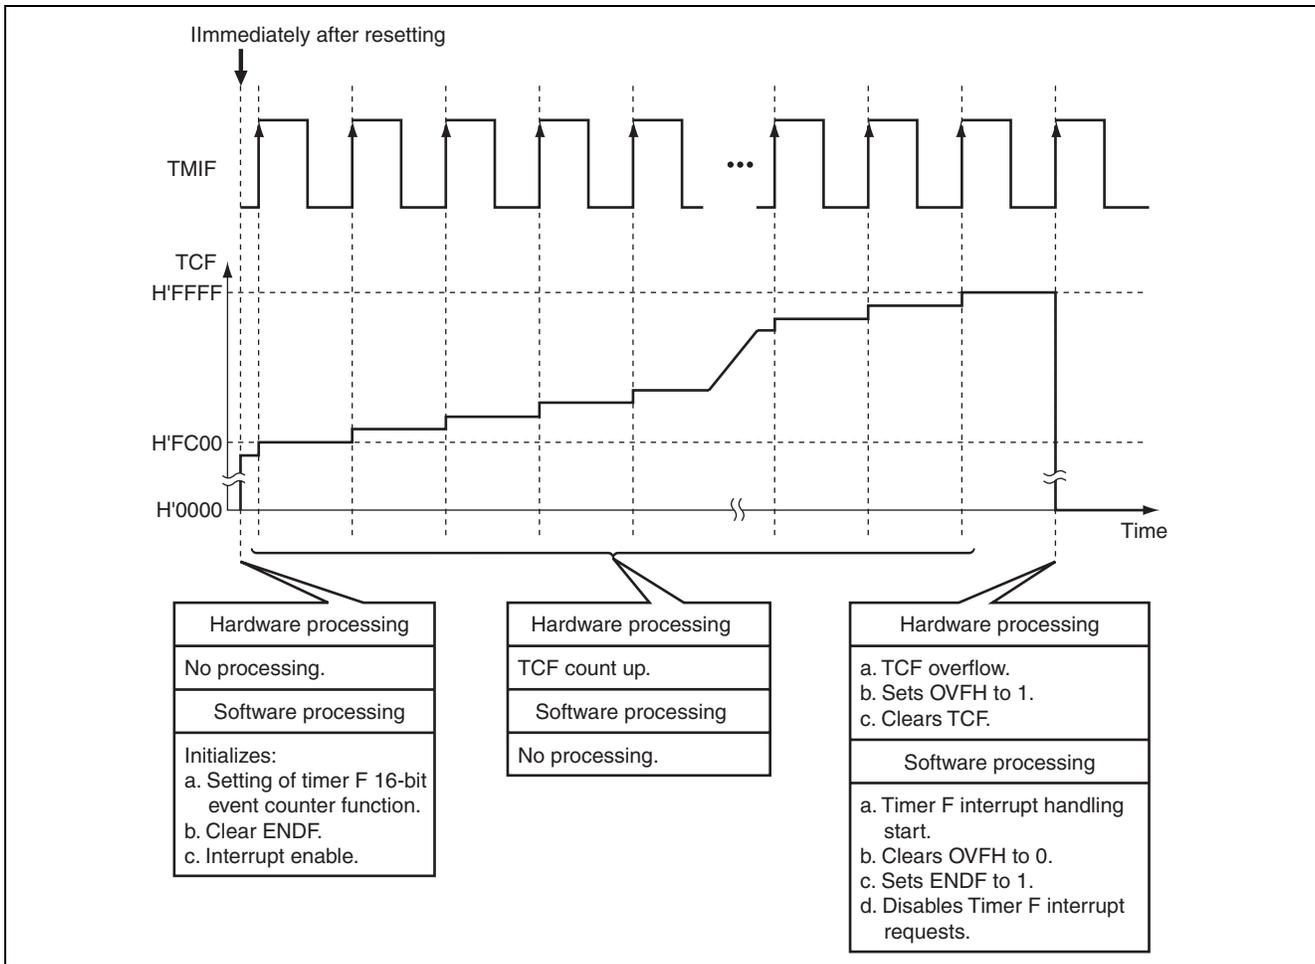

Figure 3.1 Operation Principle of Counting Input Pulses by Timer F 16-Bit Event Counter Function
1. Figure 3.1 illustrates the principle of operation of this sample task. As shown in figure 3.1, input pulses are counted by the Timer F 16-bit event counter function by means of hardware processing and software processing.